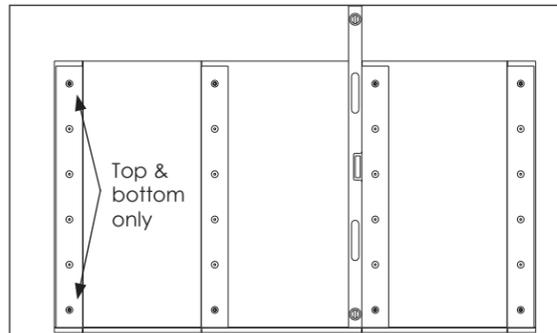

Figure 4: Use Only Top & Bottom Screw Locations
- b. Use only the top and bottom screw locations in each tube. Refer to **Figure 4**. Drill a pilot hole as needed if a tube screw lands on a stud.